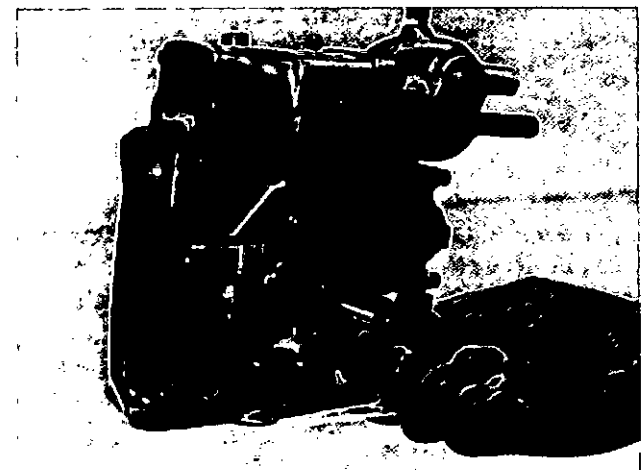

Fig. 8-12, (F5263). Install the throttle assembly in the VS housing.
4. Install the old design VS pump throttle shaft with the open side of the pin toward the front of the pump, Fig. 8-12.